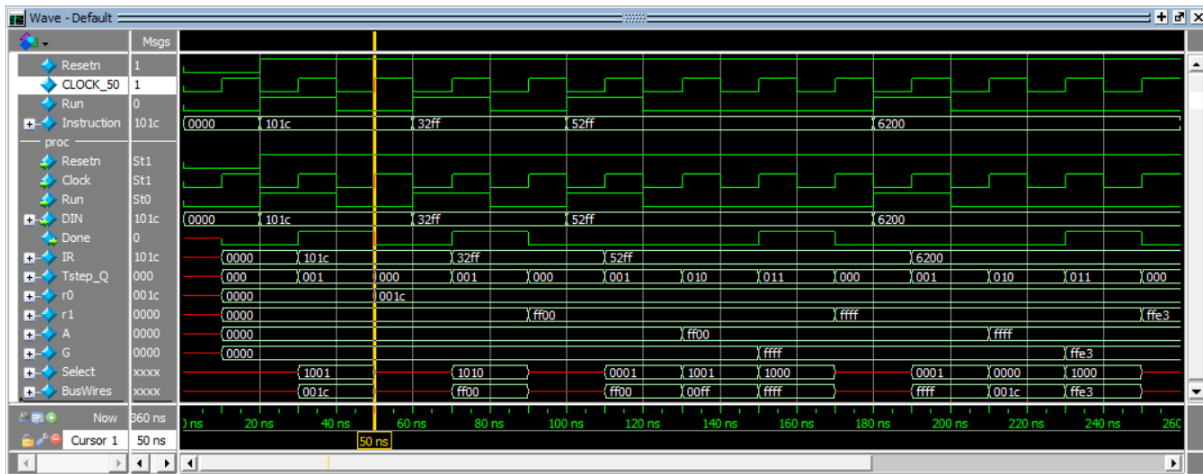

Figure 3: Simulation results for the processor.
2. Set up the required subfolder and files so that your Verilog code can be compiled and simulated using the ModelSim Simulator to verify that your processor works properly. An example result produced by using *ModelSim* for a correctly-designed circuit is given in Figure 3. It shows the value 0x101C being loaded into *IR* from *DIN* at time 30 ns. This pattern represents the instruction `mv r0, #28`, where the immediate value $D = 28$ (0x1C) is loaded into *r0* on the clock edge at 50 ns. The simulation results then show the instruction `mv t r1, #0xFF` at 70 ns, `add r0, #0xFF` starting at 110 ns, and `sub r1, r0` starting at 190 ns.